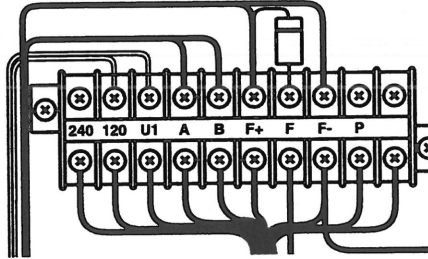

Figure 25: Control Terminal Board, 120 Volt Output
- 120 volt output can be selected by connecting the terminals of the control terminal board to 120 (Figure 25).